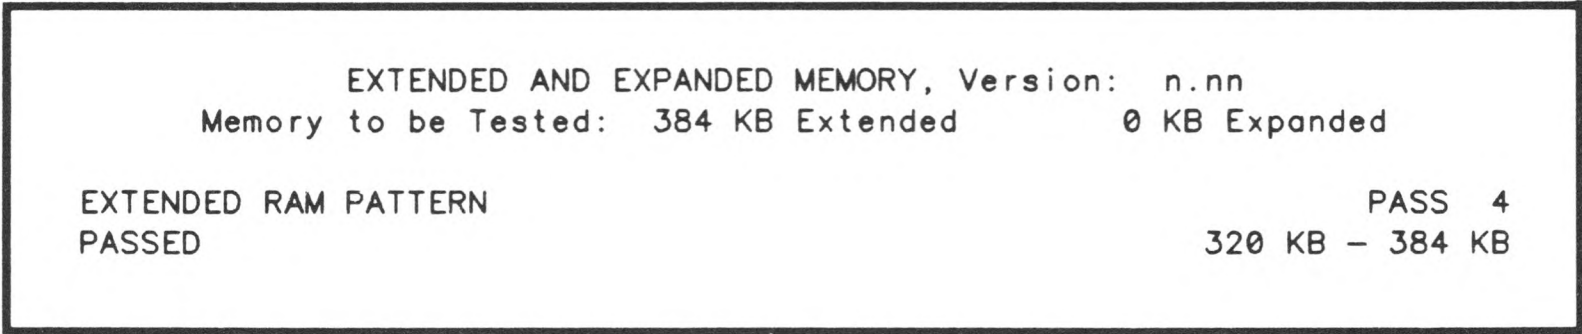

Figure 3-2. Extended and Expanded Memory Test Results Screen
Step 2 Type 2 (or 02) and then <Enter>. You will see screens similar to Figure 3-2.